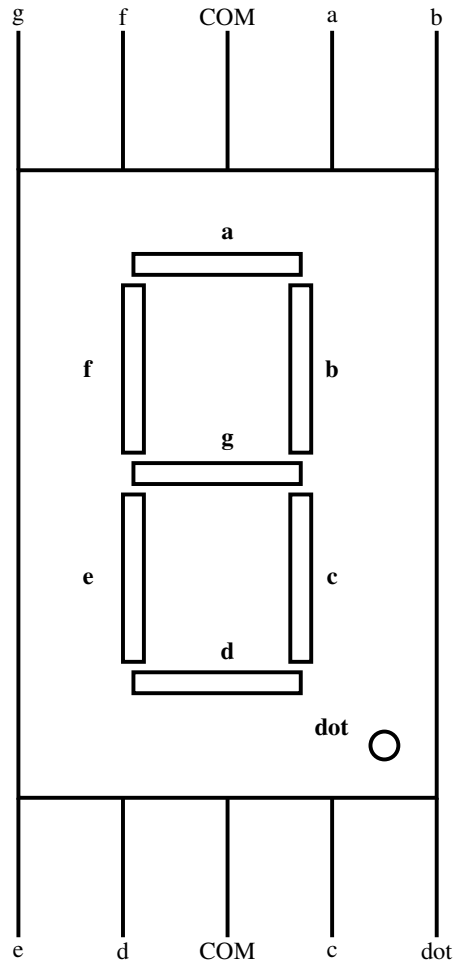
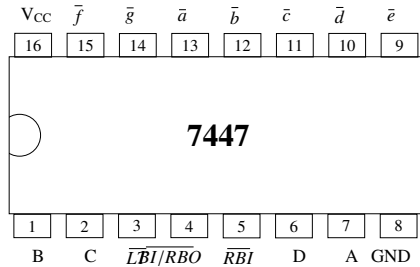

Fig. 2.2: Seven Segment pins
Fig. 3.1: 7447 IC
- Seven Segment Display: The seven segment display in Fig. 2.2 has eight pins, a, b, c, d, e, f, g and dot that take an active LOW input, i.e. the LED will glow only if the input is connected to ground. Each of these pins is connected to an LED segment. The dot pin is reserved for the \cdot LED.
1. Make connections between the seven segment display in Fig. 2.2 and the 7447 IC in Fig. 3.1 as shown in Table 3.1
11. Display Decoder: Table 4.1 is the truth table for the display decoder in Fig. 3.1. Use K-maps to obtain the minimized expressions for a, b, c, d, e, f, g in terms of A, B, C, D .